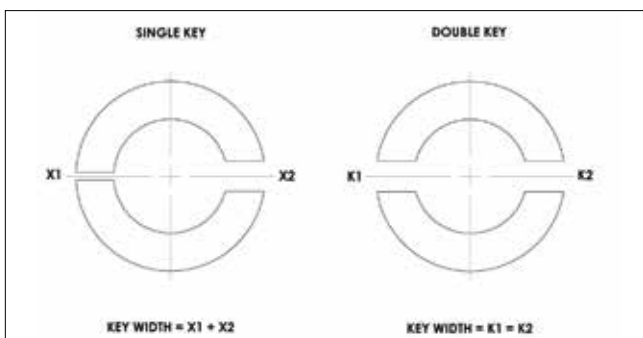

Figure 29: Measuring Key Widths
3. Measure the circumferential width of the key(s) and measure or approximate the width of the cut on the side opposite the key in the case of a single key as illustrated in Figure 29.